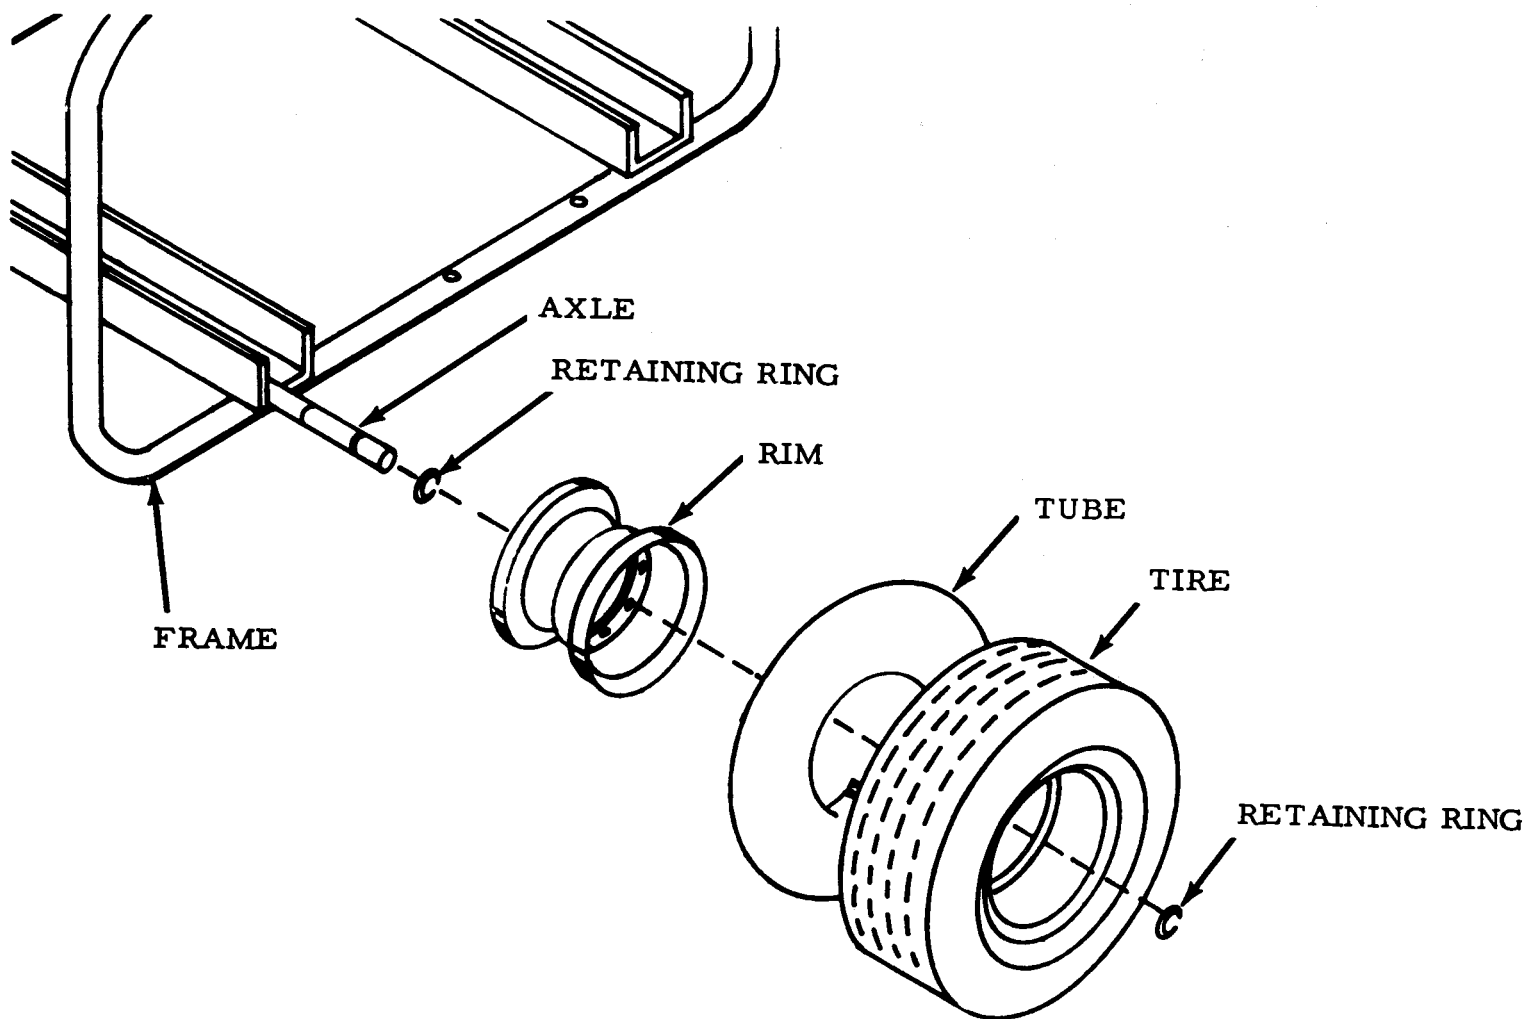

Figure 3-11. Wheels and tires, disassembly and reassembly.
- (2) Refer to figure 3-11 for disassembly of wheels and tires.
- (1) Refer to figure 3-11 for wheel and tire reassembly.
- (2) Inflate tire and remove blocking from under frame.
- (9) Grease wheel bearings (refer to current lubrication order).